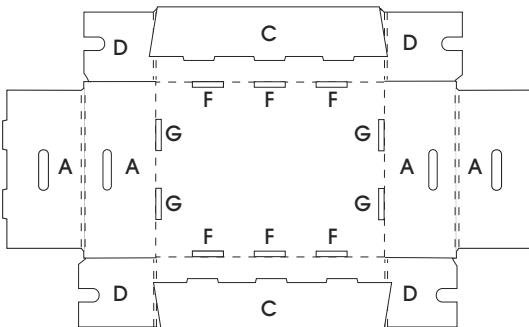

Figure 2
2. Unfold the two sides with handles (A). (See Figure 2)